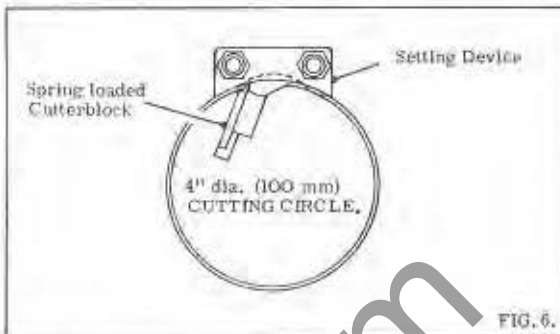

FIG. 6.
2. Turn the cutterblock to approximately the position shown in Fig. 6 and slacken the securing screws until the knife is just free of the cutterblock.
To re-set the knives, the cutterblock should be in approximately the position as shown in Fig. 6. Place the knife in the slot making sure that all faces are clean and the clamping bar free from burrs. Press the knife into the cutterblock with the setting device as in Fig. 6 until the four predominant pads rest on the outer surface of the cutterblock. Position the knife central in the cutterblock.